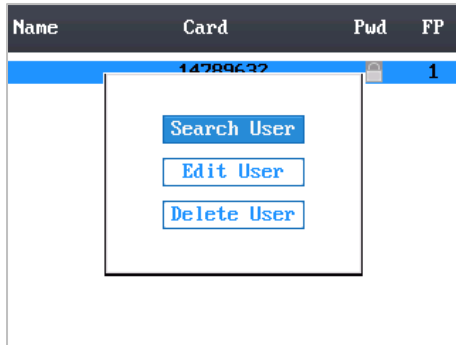

Figure 6-9 Managing User Interface
2. Click the # key to popup an interface for selecting corresponding operations. (Figure 6-9)
2. Click the # key to pop up an interface for selecting corresponding operations. (Figure 6-9)